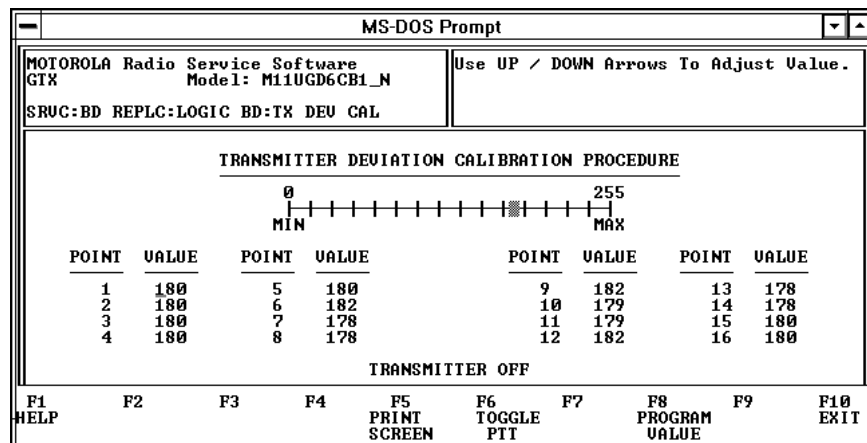

Figure 11.12 – Transmit Deviation Calibration
- Press F10, "Exit", to terminate the balancing adjustments and enter the deviation calibration procedure. The deviation calibration screen is shown in Figure 11.12.